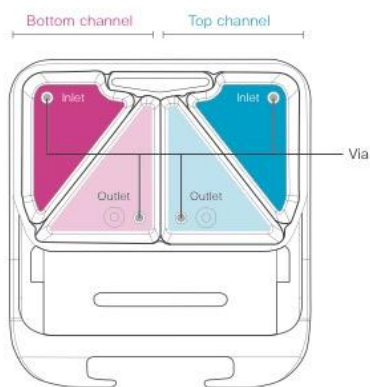

Figure 10: Pod
4. Pipette the corresponding 300  $\mu$ L of pre-equilibrated, warm media to each outlet reservoir, directly over each outlet via (See Figure 10).